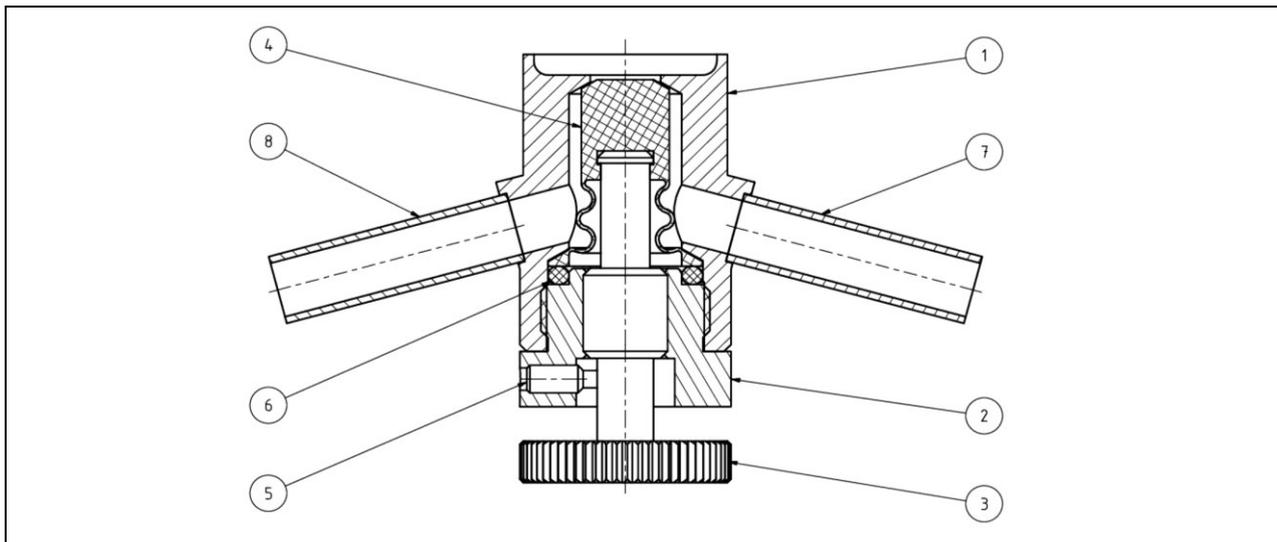
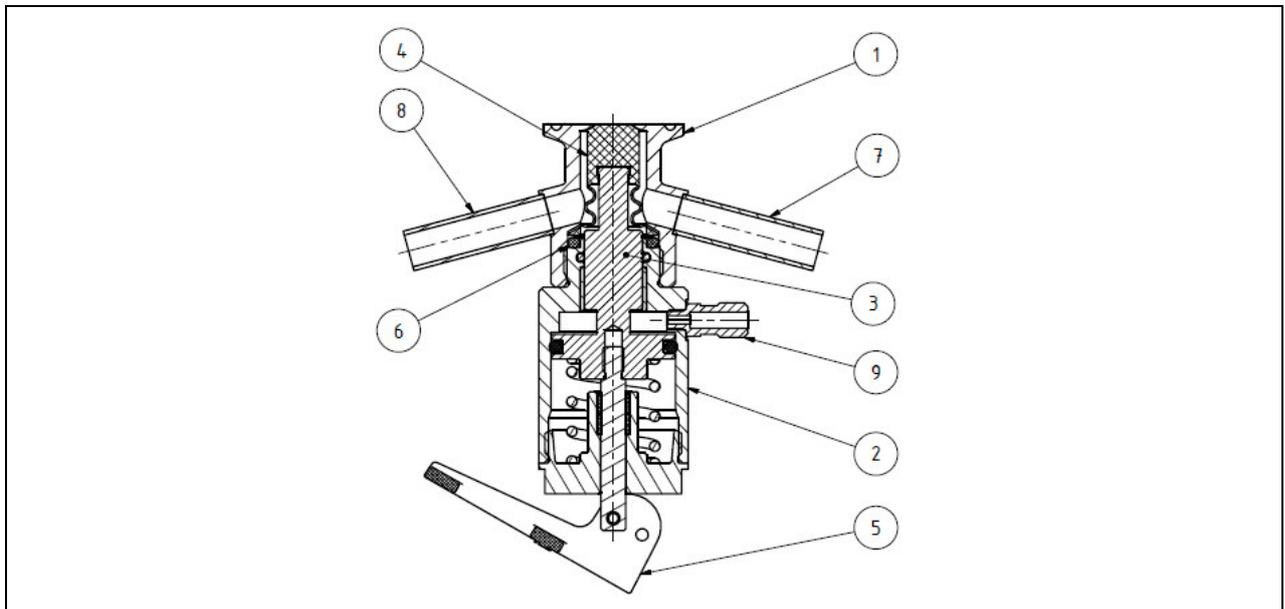
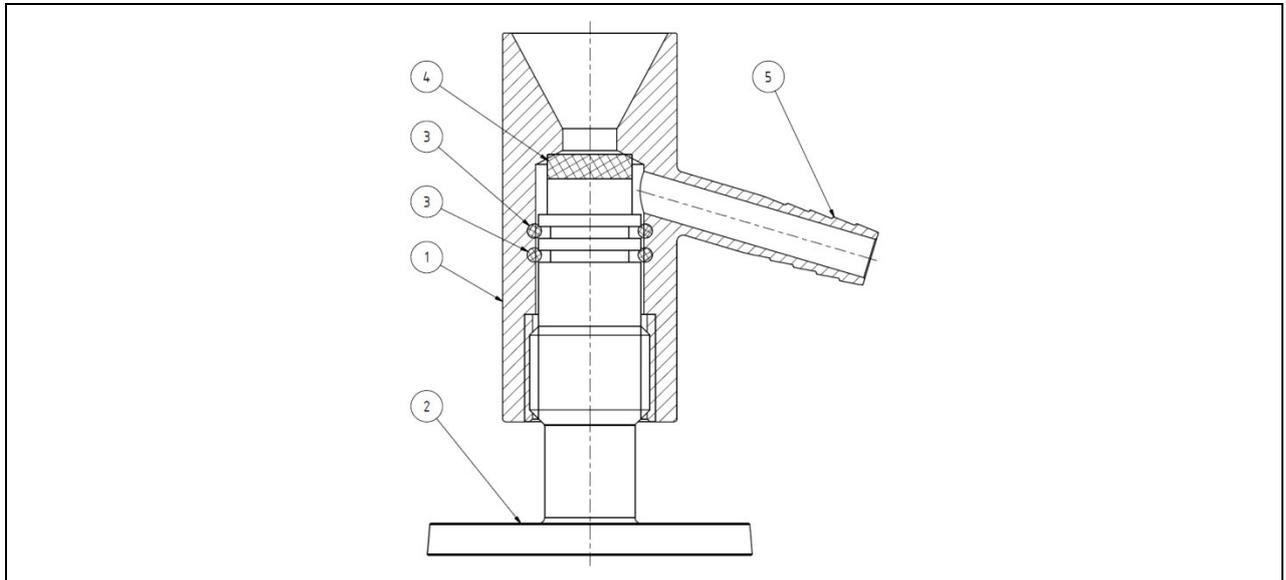
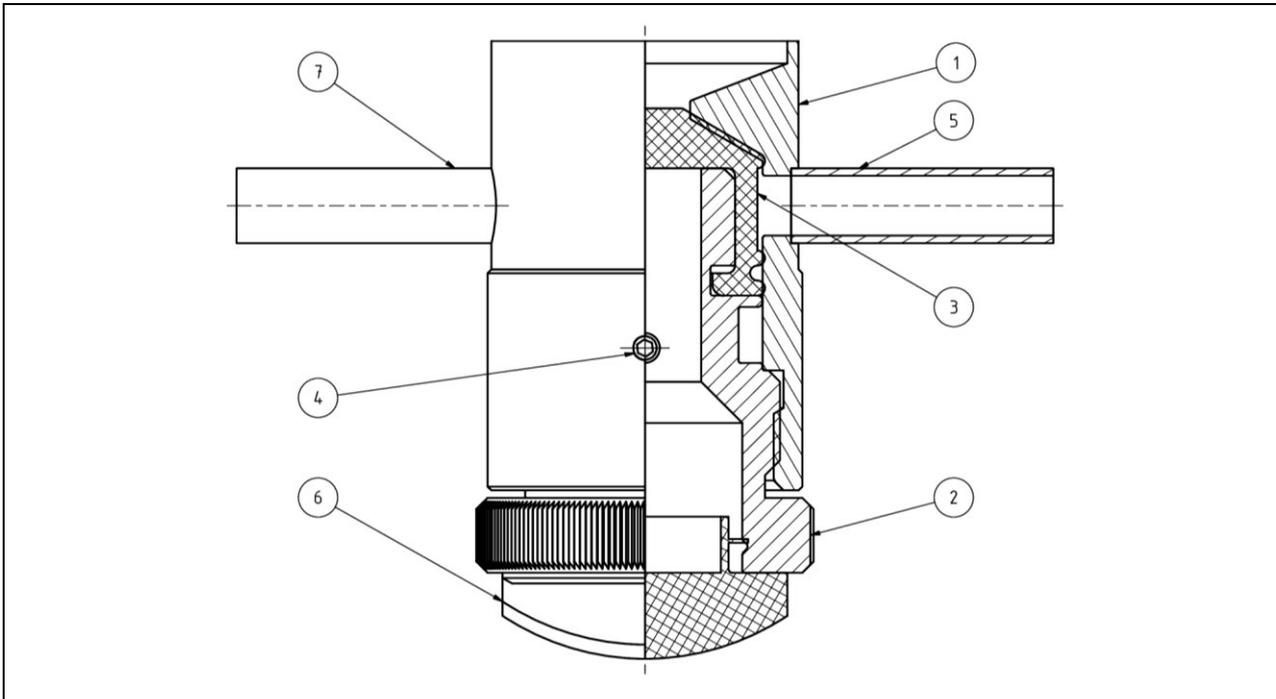

Fig. 3-1: Overview Compact EHEDG
Fig. 3-2: Overview of PNV Compact air
Fig. 3-3: Overview of Standard ECO
Fig. 3-4: Overview of Standard Vario
The valve is opened by turning the knurled handle of the spindle (Fig. 3-1, item 3) counterclockwise. During this process, the diaphragm spindle (Fig. 3-1, item 3) and diaphragm seal (Fig. 3-1, item 4) are lifted and the fluid can flow into the valve housing (Fig. 3-1, item 1) and be removed via the outlet nozzle (Fig. 3-1, item 7). Normal CIP cleaning can be performed in the “open” position. The diaphragm seal is a bellows that prevents the medium from contacting the spindle.
When actuated in the opposite way, the spindle pushes the diaphragm seal into the valve seat of the housing and closes the valve. When a valve with the optional rinsing connection (Fig. 3-1, item 8) is closed, CIP or SIP can be performed after every sampling without draining the system.
The valve is actuated manually via a pneumatic cylinder. If there is control air pressure at the air connection (Fig. 3-2, item 9) the piston with the diaphragm check (Fig. 3-2, item 3) and the diaphragm seal (Fig. 3-2, item 4) are lifted and the fluid can flow into the housing (Fig. 3-2, item 1) and be removed via the outlet nozzle (Fig. 3-2, item 7). Normal CIP cleaning can be performed in the “open” position. The diaphragm seal is a bellows that prevents the medium from contacting the piston with the diaphragm chuck (Fig. 3-2, Pos. 3).
If the compressed air is interrupted, the spring tension pushes the diaphragm seal into the valve seat of the housing and closes the valve. When a valve with the optional rinsing connection (Fig. 3-2, item 8) is closed, CIP or SIP can be performed after every sampling without draining the system.
During manual operation, the valve closes by spring tension as soon as you release the lever (Fig. 3-2, item 5).
The valve is opened by turning the spindle guide (Fig. 3-3, item 2) counterclockwise. During this process, the spindle (Fig. 3-3, item 2) with the PTFE gasket (Fig. 3-3, item 4) are lifted and the fluid can flow into the valve housing (Fig. 3-3, item 1) and be removed via the outlet nozzle (Fig. 3-3, item 5). Normal CIP cleaning can be performed in the “open” position.
The valve is opened by turning the knurled screw (Fig. 3-4, item 2) counterclockwise. During this process, the knurled screw and diaphragm seal (Fig. 3-4, item 2 + 3) are lifted and the fluid can flow into the valve housing (Fig. 3-4, item 1) and be removed via the outlet nozzle (Fig. 3-4, item 5). Normal CIP cleaning can be performed in the “open” position.
When a valve with the optional rinsing connection (Fig. 3-4, item7) is closed, CIP or SIP can be performed after every sampling without draining the system.
(See Fig. 3-1, Fig. 3-2., Fig. 3-3, and Fig. 3-4) 1.4301 / 1.4307 / 1.4404 / 1.4435 / 304 / 304L / 316L